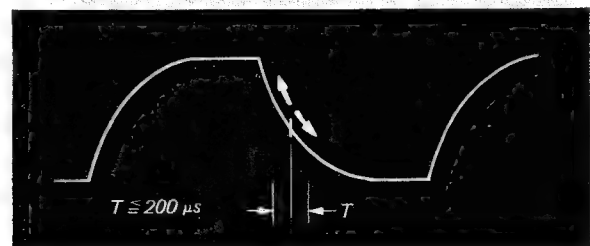

Fig. 7-8.
2. Adjust R452 for minimum hunting (less than 200 μs). See Fig. 7-8.